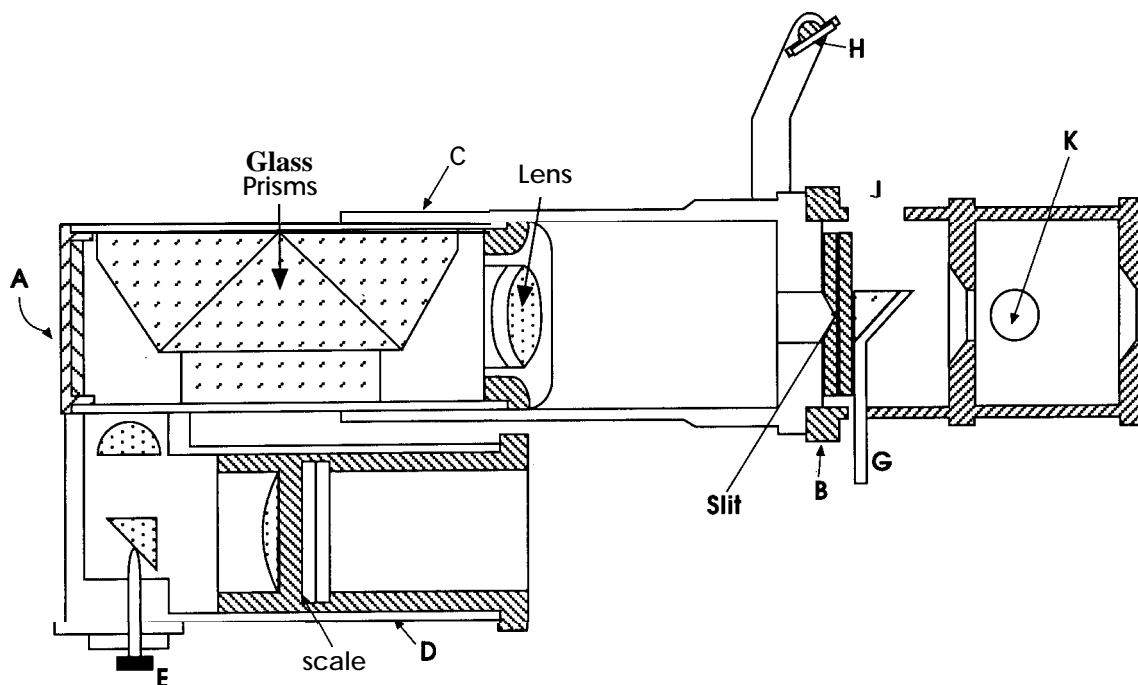

figure 1
- a solution of potassium permanganate, chlorophyll, or one of the metallic chloride salts previously mentioned into a micro test tube. Insert the tube in hole (K) in front of the slit (*see figure 1*) and use an ordinary tungsten filament light globe as a light source. The resulting spectrum can be compared directly with the white light source by moving lever (G) down. This moves a prism across half the slit. The top half of the field of view is now the absorption spectrum being examined, while the bottom half is the continuous emission spectrum from the tungsten filament lamp. The latter is very dull and can be brightened by adjusting the position of mirror (H) so that it reflects light into hole (J).